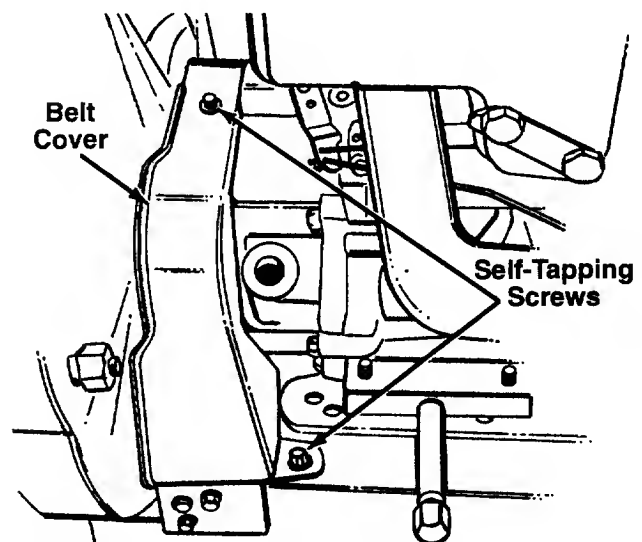

FIGURE 12.
3. Remove the plastic belt cover on the front of the engine by removing the two self-tapping screws. See figure 12.
7. Remove the two self-tapping screws that secure the plastic belt cover. See figure 12. Lift off belt cover.